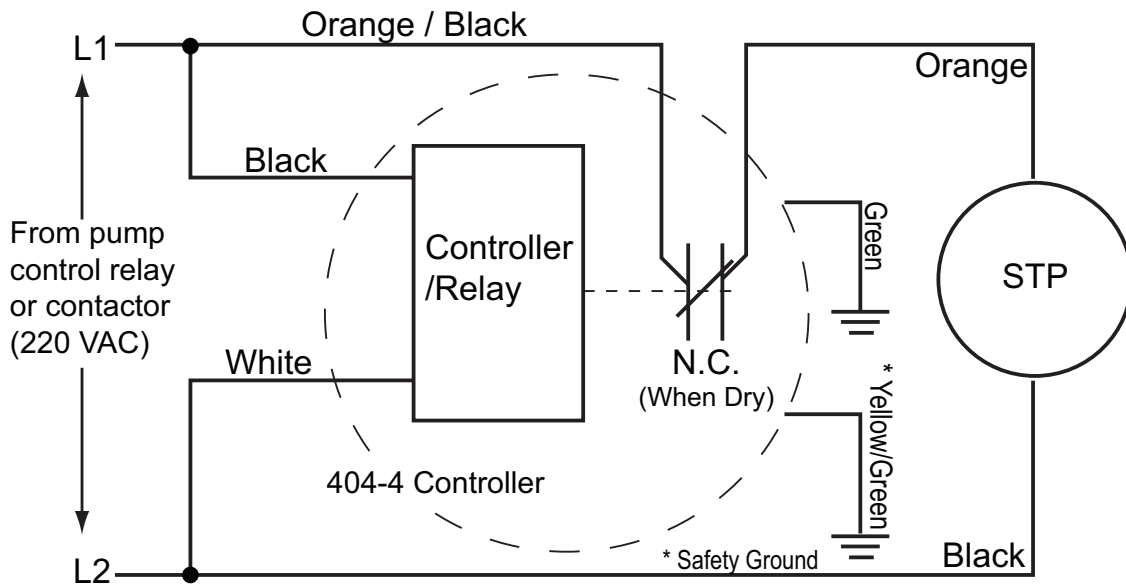

Figure 4: Power Wiring Schematic for STP Connection
- Remove the STP junction box cover/plug. Make sure the STP junction box has enough room to accommodate the additional 404-4 controller wires (see the table on page 2). Thread the six 404-4 power wires from the power port through the conduit fittings and plumb the conduit fittings to the 404-4 controller. Connect the controller power wires to the STP wiring as shown in figure 4.